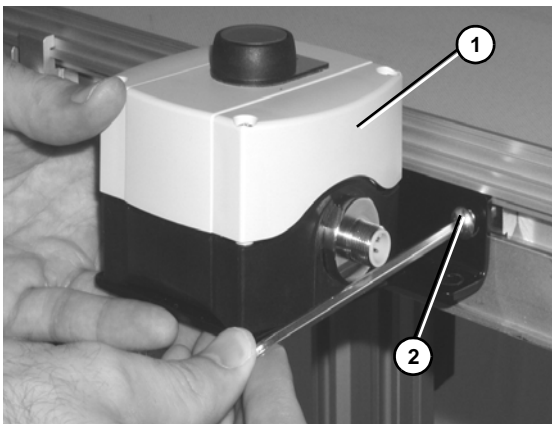

Figure 6
2. Attach button box kit (Figure 6, item 1) to conveyor with screws (Figure 6, item 2).